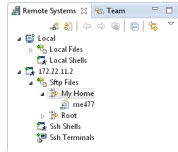

Figure 00.10: the Remote Systems tab should appear like this once a connection is established successfully.
4. If the Keyboard Interactive authentication dialog box appears, leave the password blank, and click . As shown in Figure 00.10, green arrow appears on the target icon when the myRIO is connected.